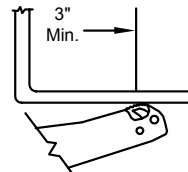

Figure 5B
- If no structural component exists and one cannot be created, flip the serrated lift pad into an upward position and choose a lift point at least 3" inward toward the center of the vehicle on a flat surface (see Figure 5B).